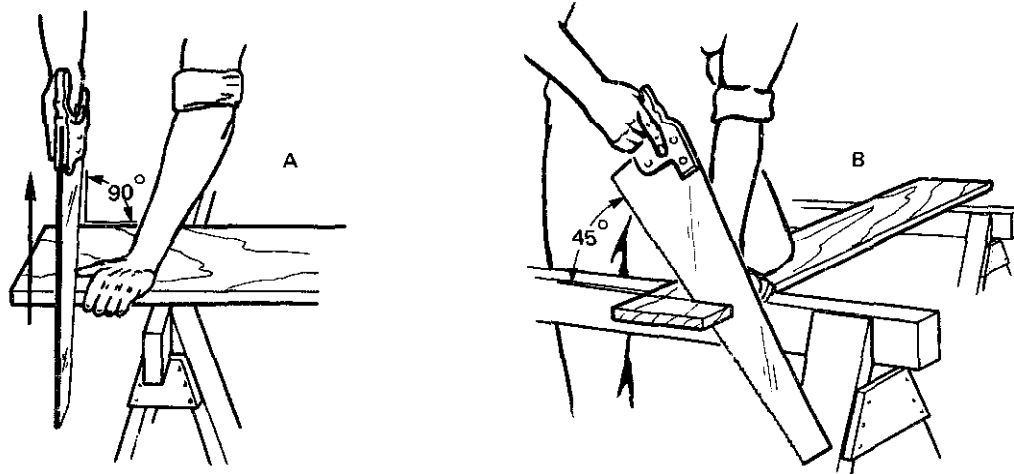

Fig. 6-7 Using the crosscut saw.
3. If the board is long, place it on two saw horses; if short, place it on one. Hold it firmly with one knee placed on the board as shown at B in figure 6-7.
4. Hold the saw so that it is in line with the shoulder joint and also in line with the mark on the board. Slant the saw on the surface of the wood at about a 45-degree angle as shown at B in figure 6-7. The face of the blade should be held square with the board. See A, figure 6-7.
7. Place the thumb against the side of the blade to guide the saw to the mark. See A, figure 6-7. Be sure to hold the thumb above the teeth to avoid cutting it. Draw the saw lightly over the wood toward the shoulder with a short stroke until a saw kerf is made.
8. Gently push the saw down and deepen the saw kerf. Throughout the cut, keep the position for holding the board down, as shown at B in figure 6-7. Always keep the saw blade lined up with the mark on the board.